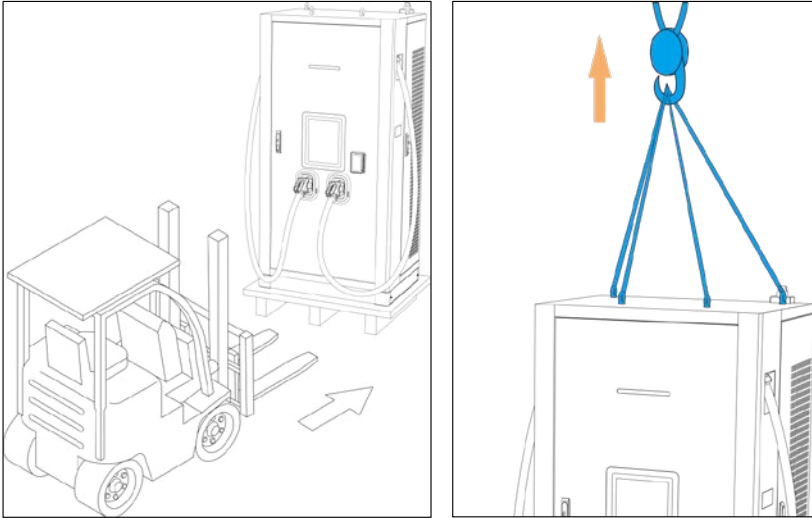

Figure 3.4.3-A
- Use forklift to transport the cabinet to the installation base, and use the crane to lift the cabinet. It is shown in **Figure 3.4.3-A**.
- Suspend the cabinet above the cement base, open the front door of the cabinet, and extend the embedded cable from the bottom of the cabinet through the inlet hole. At this time, slowly lower the cabinet and pull the remaining cables out from the front door until the cabinet is completely placed on the base. As shown in **Figure 3.4.3-B**.